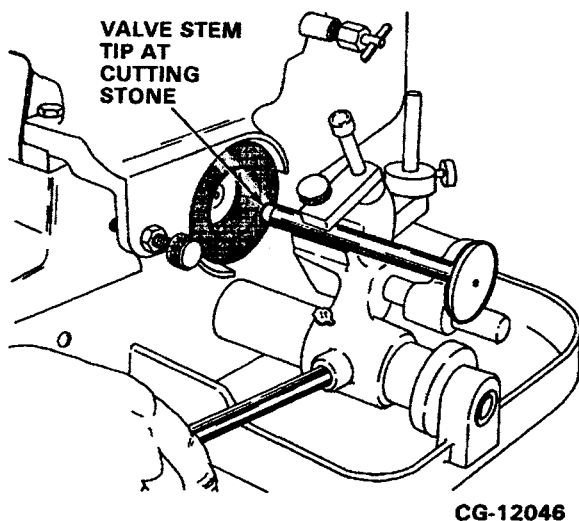

Figure 4.43. Reface Valve Stem Tip
- b. Install the valve in the grinder as shown in Figure 4.43.